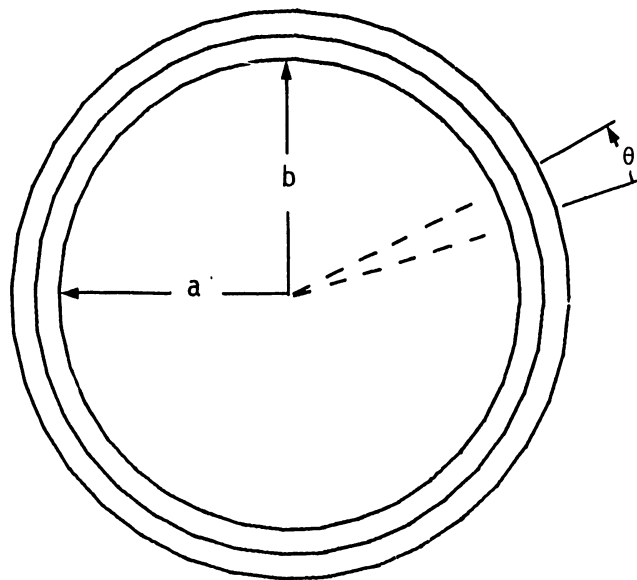

FIGURE 36
2) Example (See result, Figure 36)